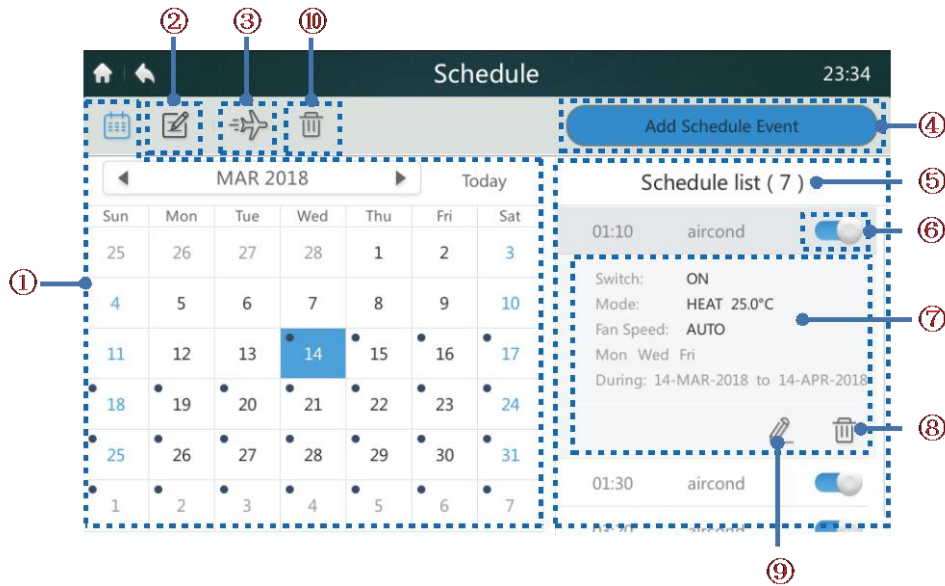

Figure 19 Homepage of Schedule page
1. Tap the add schedule button marked "4" in Figure 19 to enter the interface, as shown in Figure 20.
1. Tap the "➔" button marked "3" in Figure 19 to enter holiday settings, as shown below. Schedules are not implemented during the holiday period.
Tap the "🗑️" button marked "10" in Figure 19 to delete all the schedules settings. The following prompt appears, as shown below. Tap "Delete" to delete the schedule or tap "Cancel" to cancel the operation.